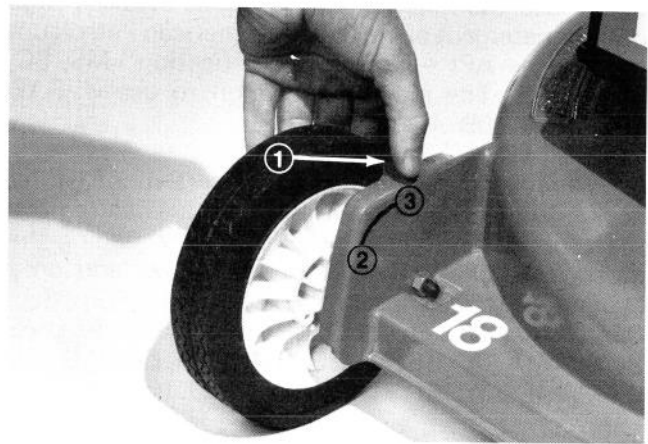
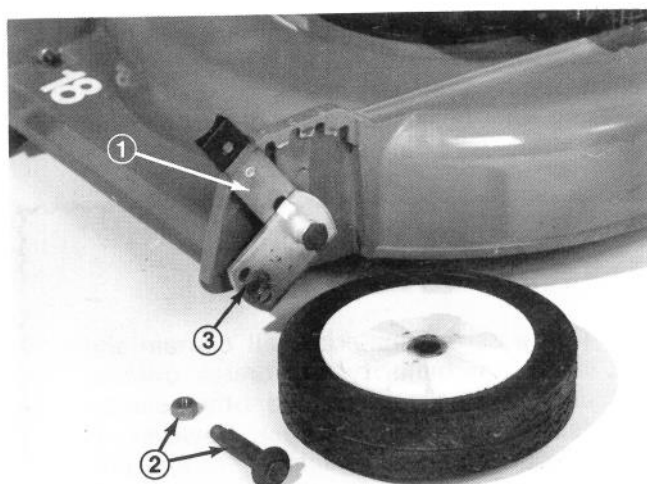

Figure 12
Figure 13
**Height-of-Cut Adjusters** (Fig. 12) — Height-of-cut is adjustable to one of five approximate settings: 1 in. (25.4mm), 1-1/2 ins. (38.10mm) 2 in (50.8mm) 2-1/2 in. (63.5mm), or 3 in. (76.2mm). In addition, height can be set from approximately 1/2 in. (12.70mm) to 2-1/2 in (63.5mm) by re-locating wheel mount bolts in different holes in height-of-cut brackets (Fig. 13).
2. Place thumb against height-of-cut adjuster and fingers on outside of wheel (Fig. 12).
1. Position height-of-cut adjuster in "E" height-of-cut setting, slide an open end wrench over locknut at rear of wheel mounting bracket, use a box end or socket wrench over wheel bolt and remove wheel bolt and wheel from bracket (Fig. 13).
2. Install wheel and wheel bolt into top hole in bracket and secure with locknut (Fig. 13).